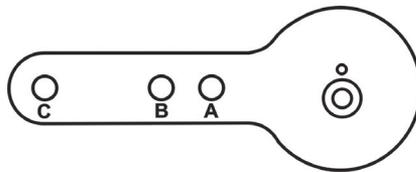

Figure 17 - Lever for Masoneilan Model 87/88 Multispring Actuator
3. Select mounting hole A, B, C or D for the stroke of the valve. For example, hole B is shown in Figure 17 on page 31 for a size 10 actuator with 1.0" stroke. Unless otherwise specified, the SVI II AP mounting assumes that the actuator is in the normal upright position. The mounting hole in the slotted opening of the mounting bracket must be left when facing the actuator, with the actuator in the upright position.
6. Attach the right hand threaded rod end to the SVI II AP lever using a 1/4 - 20 x 1" cap screw and nut as shown. The lever hole position to be used depends upon the specific valve stroke. Refer to Figure 17 on page 31 and the Reciprocating Valve Linkage Selection, Table 4 on page 32.